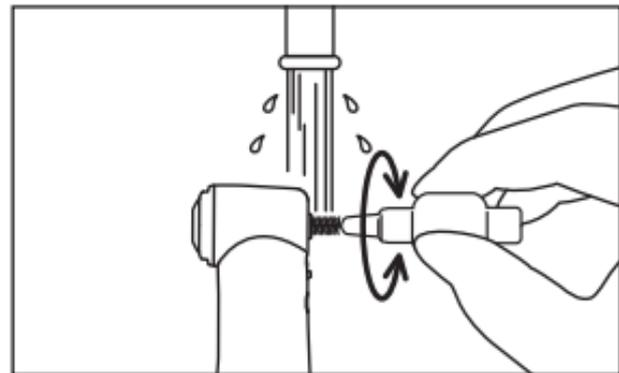

Fig. 21
2) Clean inside the bur/drill insertion hole for 15 seconds or more under running water, using an interdental brush (wire thickness 0.7mm) that conforms to size 4 in ISO 16409. (Fig. 21)